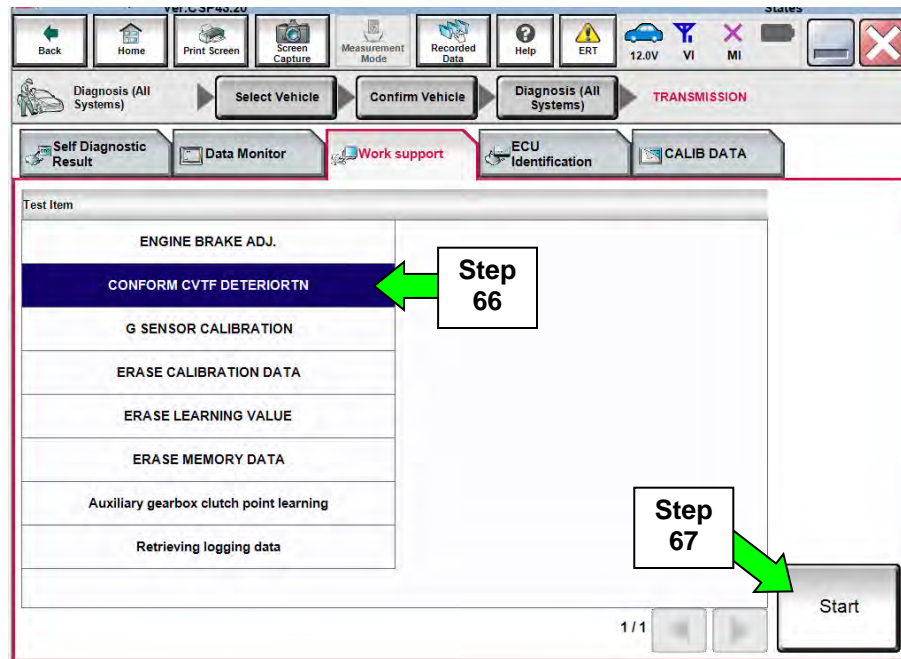

Figure 36
65. Navigate C-III plus to the screen shown in Figure 36.